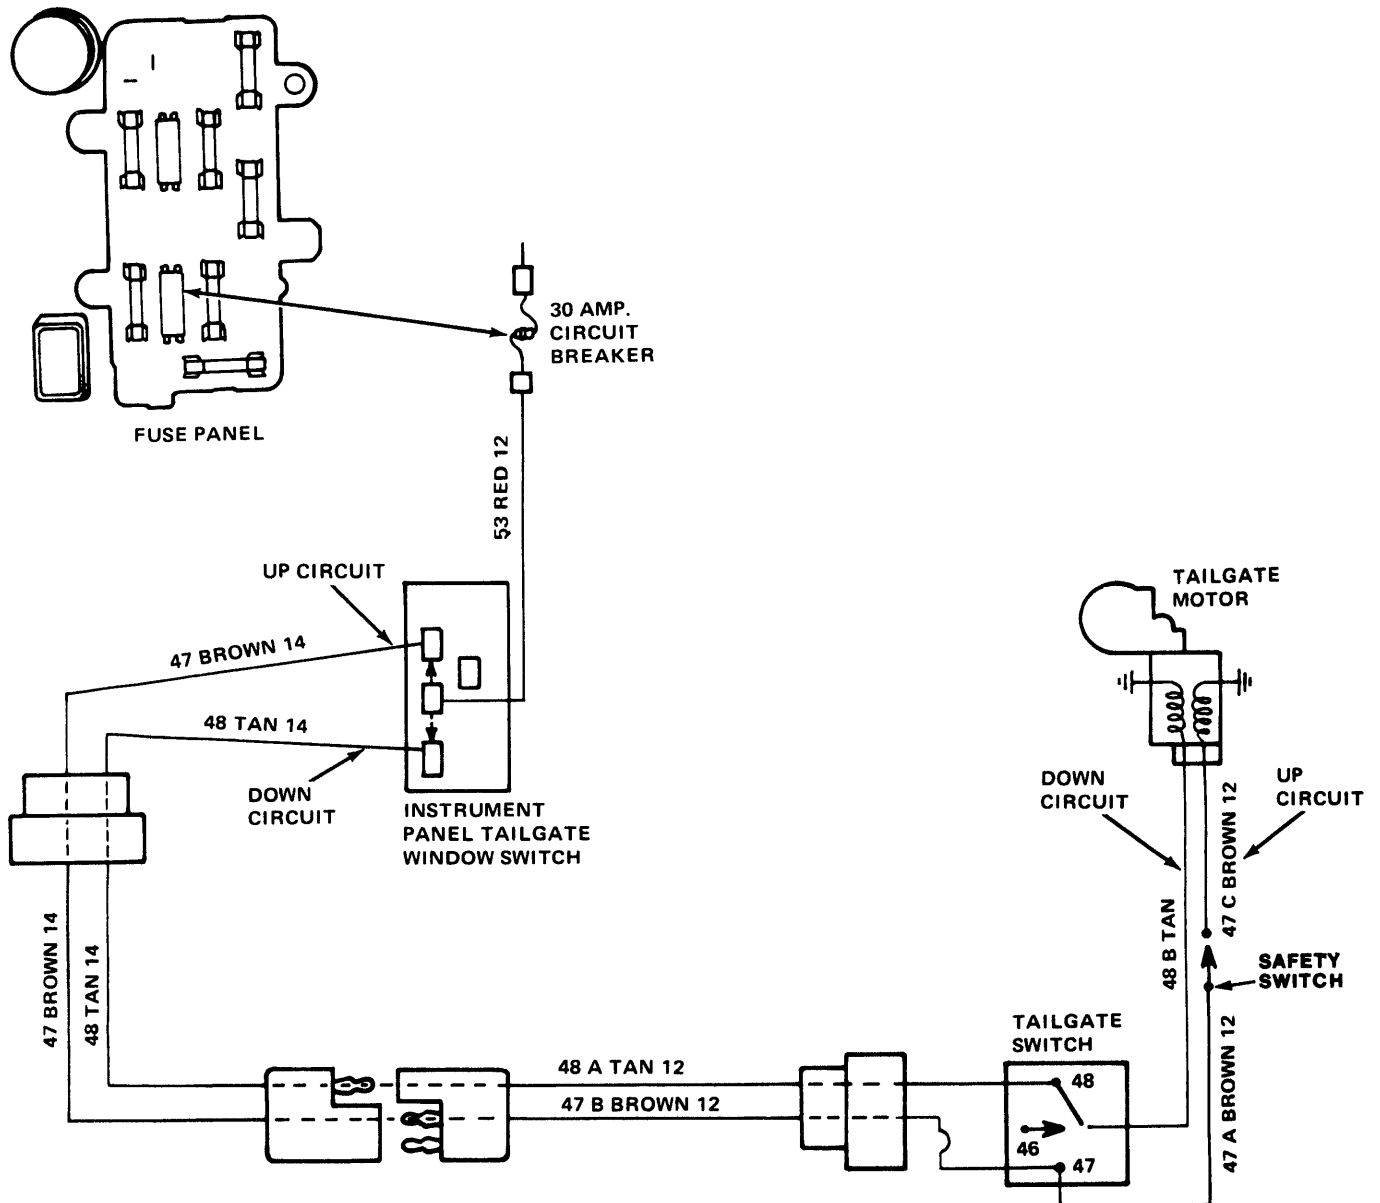

Fig. 3-100 Instrument Panel Tailgate Window Switch Circuitry—Cherokee-Wagoneer
Voltage is supplied from battery to ignition switch to fuse panel, through a 30-amp circuit breaker, and to instrument panel tailgate window switch (fig. 3-100).
- (2) Using a 12-vdc test lamp, connect one end of test lamp to ground and place probe to red (No. 53) wire of switch (fig. 3-100). If lamp lights, voltage is present at switch. If lamp does not light, repair problem in feed circuit before proceeding.
- (3) Place test lamp probe to brown (No. 47) wire of switch. Move switch to up position. If lamp lights, proceed to step (4). If lamp does not light, replace switch.
- (4) Place test lamp probe to tan (No. 48) wire of switch. Move switch to down position. If lamp lights, proceed to Tailgate Window Switch Test. If lamp does not light, replace switch.